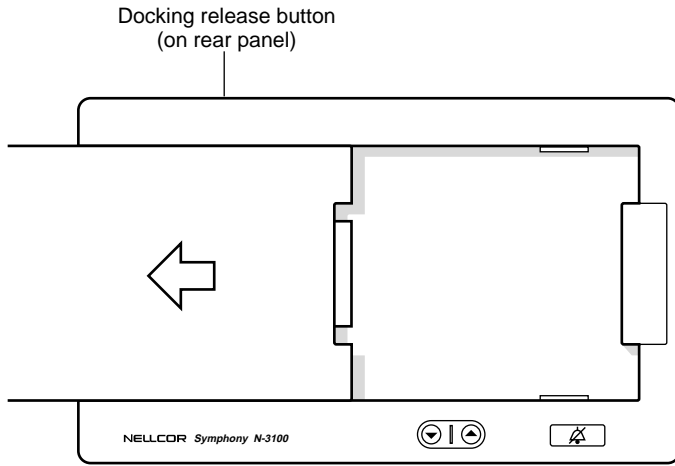

Figure 11: Removing the N-3100 Top Cover
2. Press the docking release button on the rear of the N-3100 or N-3200 to remove the top cover and expose the docking connector (N-3100 illustrated in Figure 11).